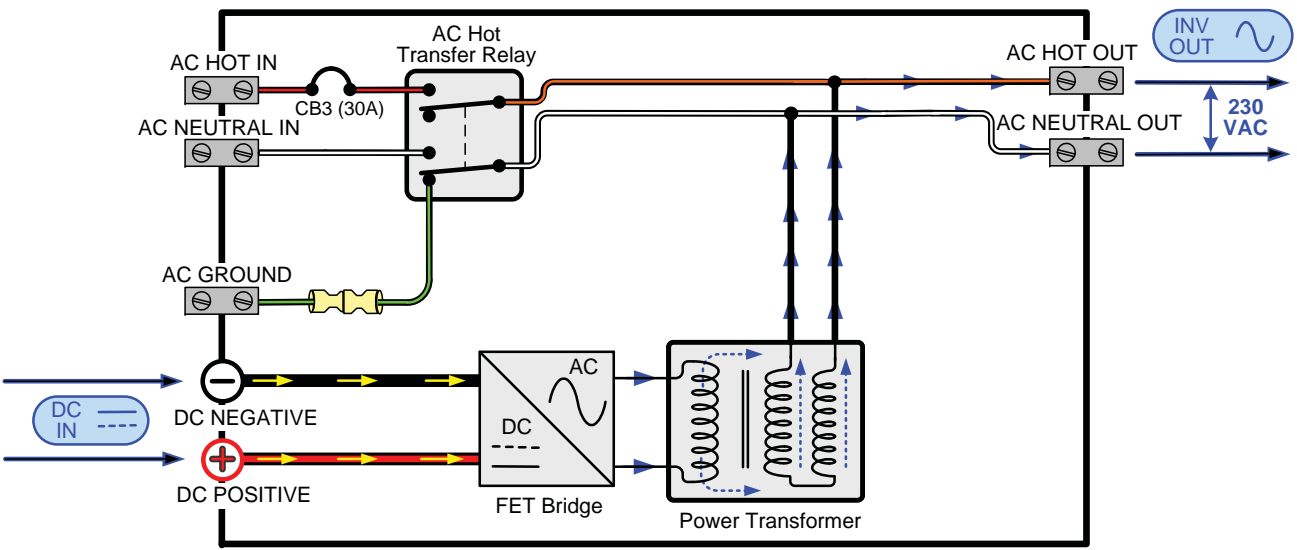

Figure 3-1, Power Flow – Inverter Mode
**Inverting** – When a load greater than 5 watts is connected to the inverter output, the MS-E Series “inverts” the DC power from the battery and supplies 230 VAC power to your sub-panel. The inverter’s green LED blinks once every second (fast flash) to indicate it is inverting. The amount of time the inverter can be inverting and providing power is directly related to the amount of AC loads that are connected, and the capacity of the battery bank. Refer to Figure 3-1 to see the flow of power from the DC input to the AC output while in Inverter mode.